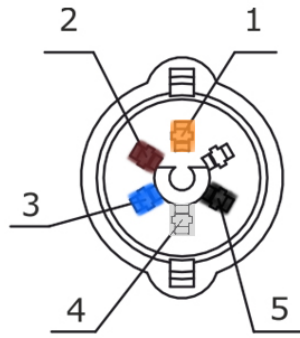

Figure 20 — DUT-E CAN interface cable connector pinout
**DUT-E CAN** electrical connection is made according to pinout of the connector and interface cable wires description. See Figure 20 and Chart 9 for details.